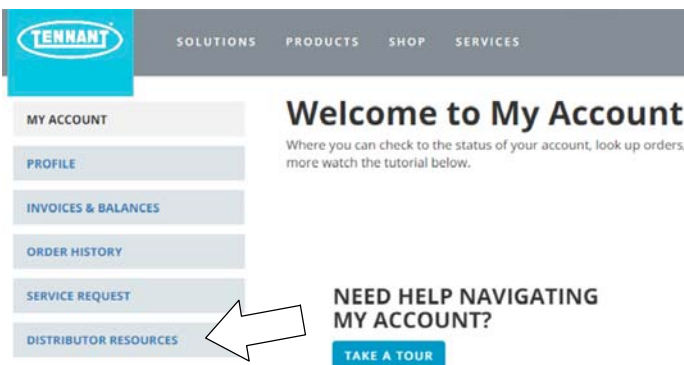

Fig. 12
2. Once logged in to the “My Account” website, click on the “DISTRIBUTOR RESOURCES” link as shown below (Figure 12).